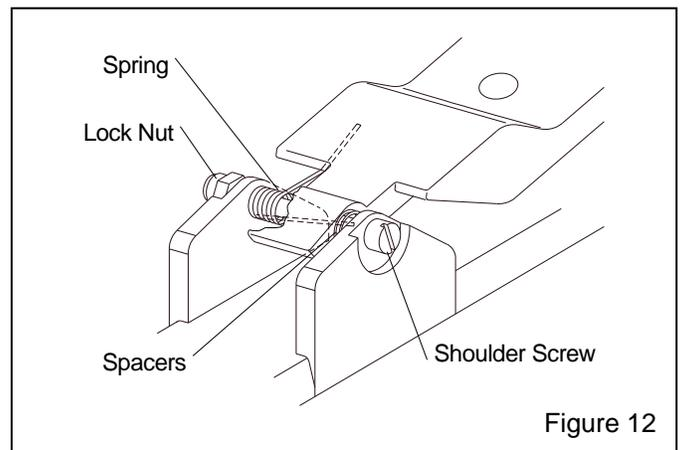

Figure 12
6.6.3 Handle lever replacement, Figure 12
6.6.3.1 Remove the lock nut from the shoulder screw. Before removing the screw, note the positions of the spacers and spring as shown in Figure 12. The bent end of the spring is against the handle lever and facing up. The straight end is against the body and facing down.